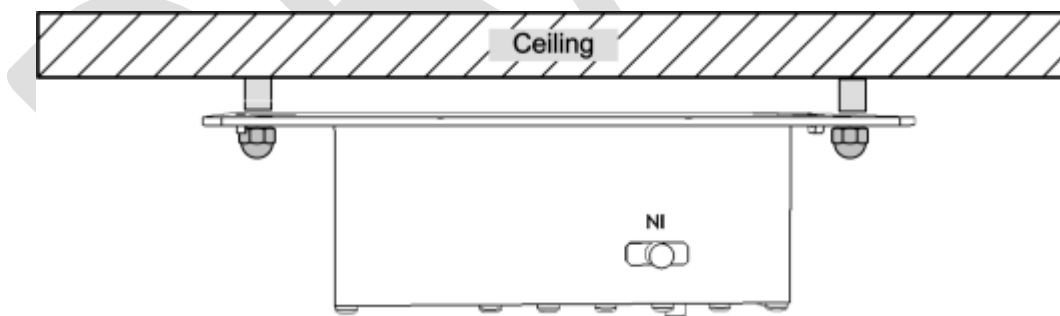

Figure 4-35. Illustration of Cavity Filter Mounted on Ceiling
3. Mount the Cavity Filter as shown in Figure 4-35.